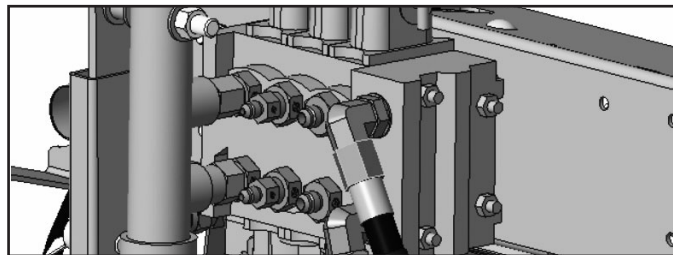

Figure 41: Main control hose
- 1.** Block front tires and jack rear of unit per jacking instructions. With unit cool to slightly warm locate the oil supply hose as shown in **Figure 41**.